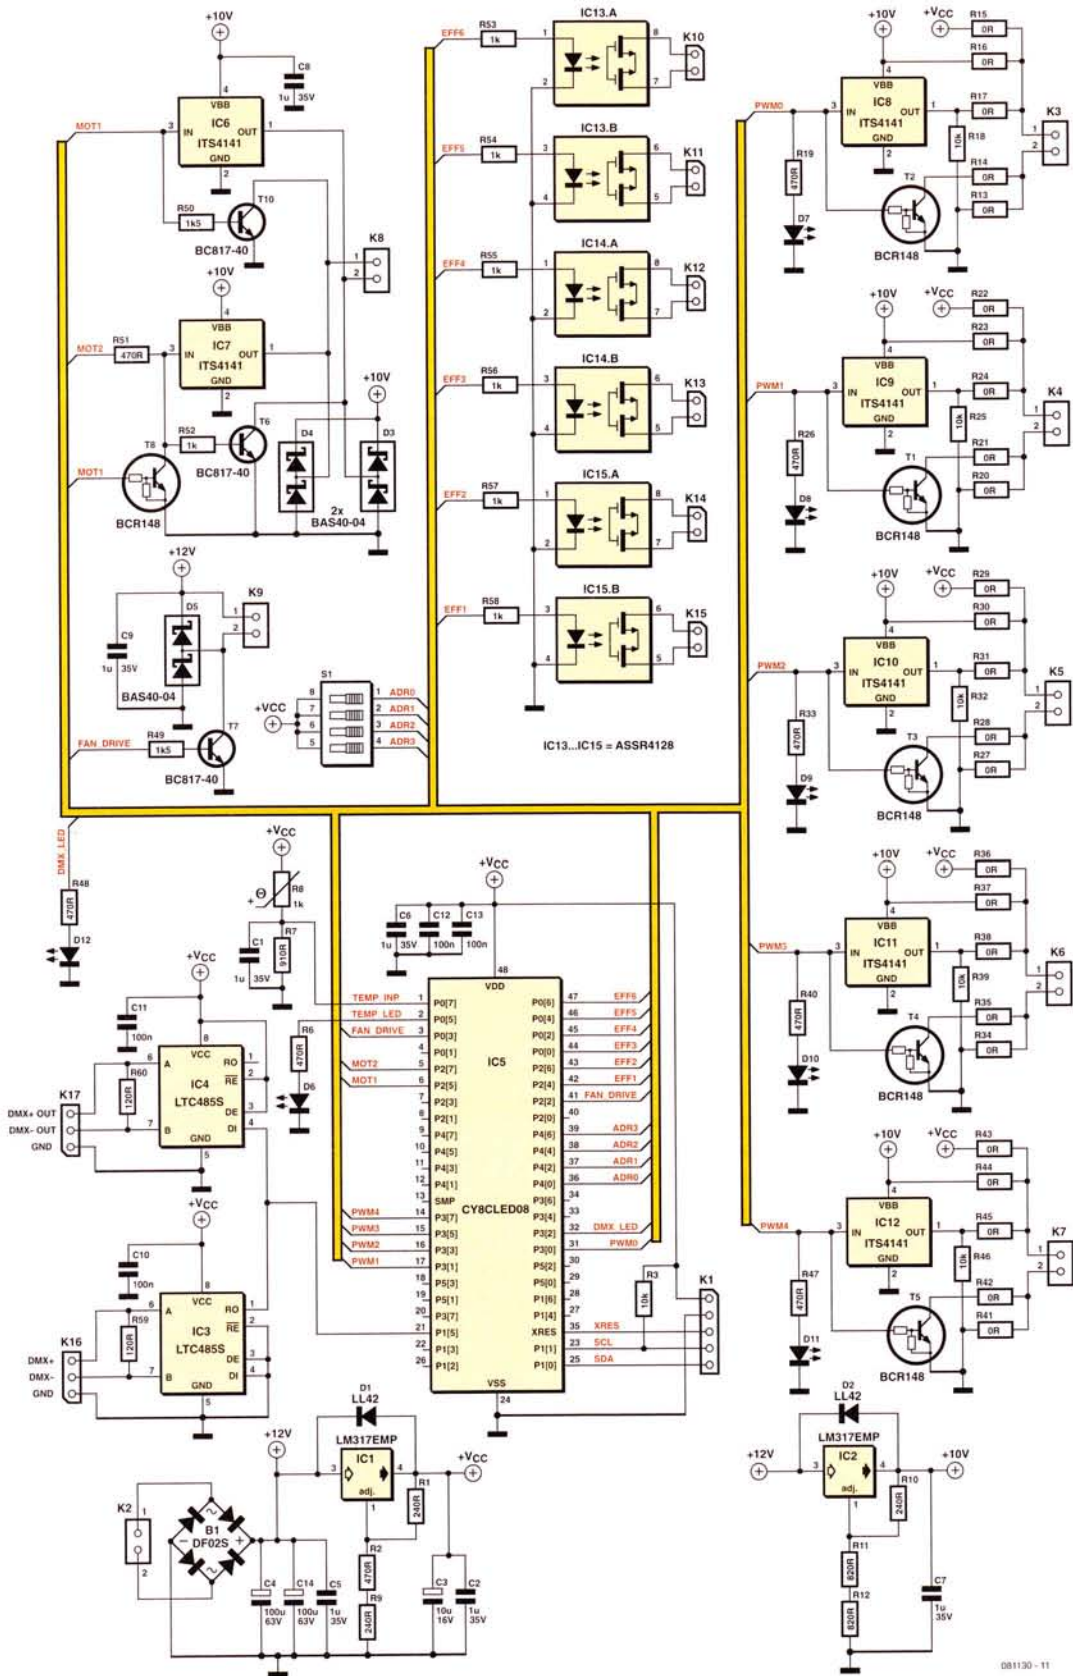

Figure 2. The user-configurable outputs are described in the text. Connector K1 is the programming port for the PSoC IC.
**Figure 2** shows the schematic diagram. The supply voltage at X2 may be provided by a DC supply or an AC supply. The allowable input voltage range is 13–18 V DC or 9–12 V AC. The two supply voltages needed by the circuitry (5 V and 10 V) are generated by a pair of LM317 adjustable voltage regulators. If necessary, the voltage on the higher-voltage supply rail (10 V with the present design) can be adjusted by altering the values of resistors R11 and R12. This could for example be necessary if you need to connect a device with a 12-V control input.